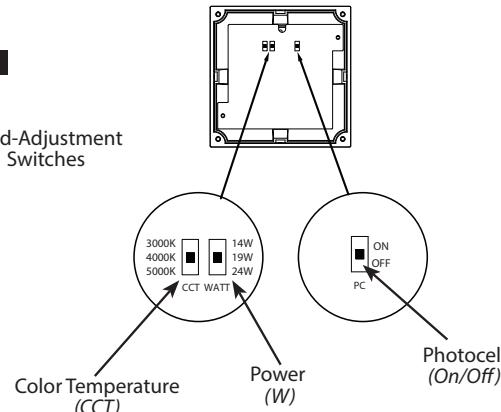
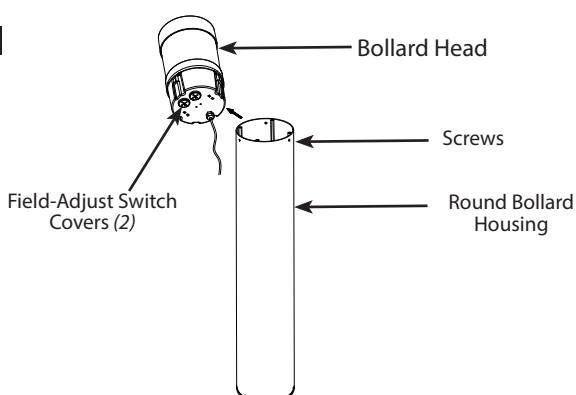

Fig: 9
Fig: 10
1. Remove **Screws** on the side of the **Housing** to loosen **Bollard Head** from **Housing** as shown in Fig. 9 for Round Bollard, Fig. 10 for Square Bollard.
2. For **Round Bollard** remove (2) **Field Adjust Switch Covers** located on the underside of the **Round Bollard Head** and remove to access **Field Adjust Switches** (Fig. 9).
3. For **Square Bollard** remove **Bollard Head** and locate **Field Adjust Switches** on top of **Housing** as shown in Fig.10.